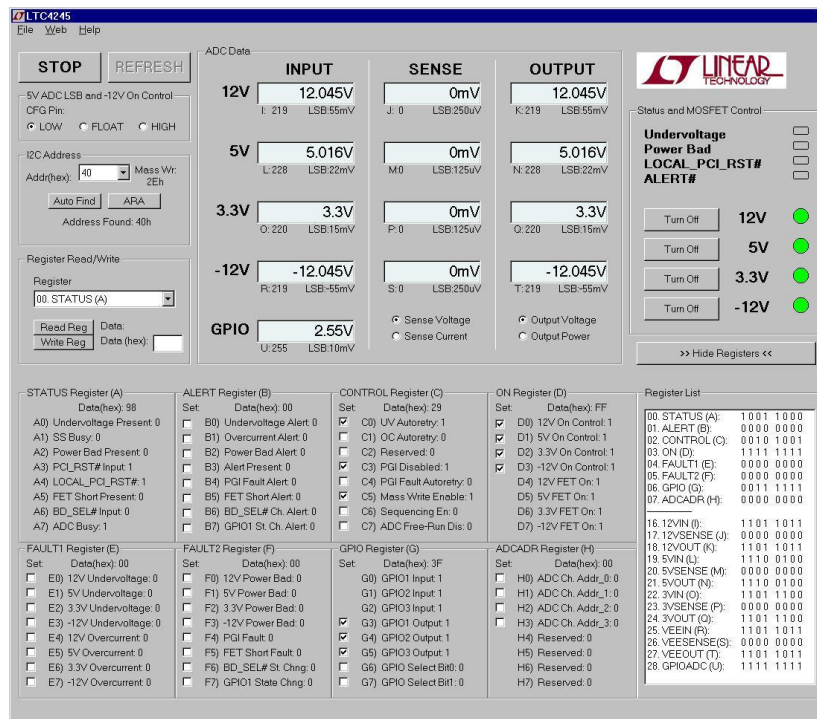

Figure 4. LTC4245 QuickEval Interface with Register Display
- Click Show Registers button for an expanded view of all the registers (Figure 4). The check-boxes can be used to selectively set or reset the corresponding register bit.
The bits of registers A to H are shown in detail by clicking on the Show Registers button (Figure 4). Checking a box to the left of each bit of the Read/Write registers sets the respective bit, while unchecking a box clears the bit. The bit status is shown to the right of each bit after every refresh of the interface. In the Register List box a bit map of